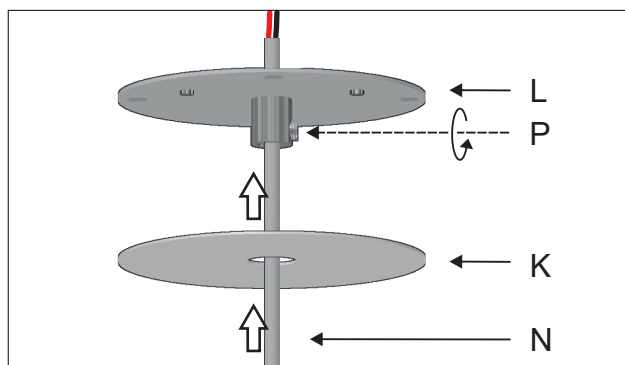

Figure 9
9 - Run the main cable (N) through the metal base (K) and the mounting bracket (L) and lock it in place with the cable holder (P). Figure 9.